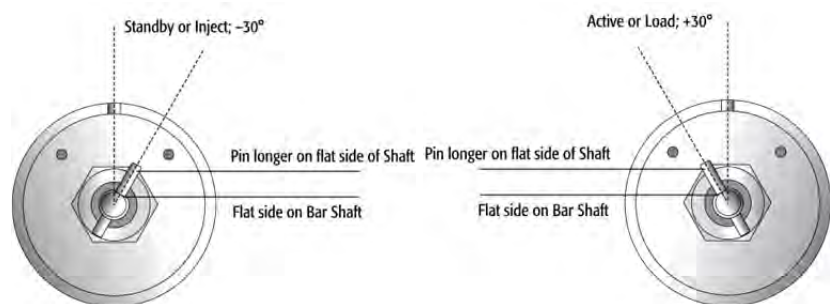
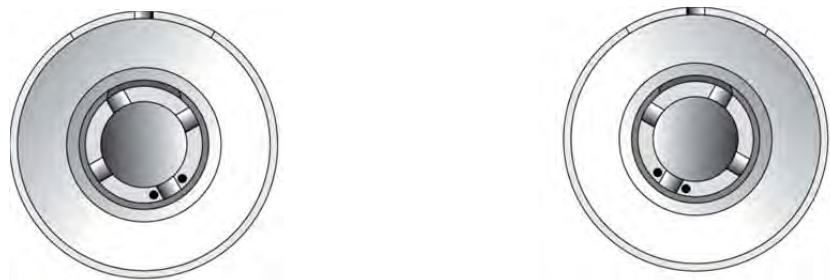

Figure 66. Valve Position 'Standby' and 'Active'
Figure 67. Actuator Position 'Standby and 'Active'
3. Check that the valve guide pin remains at its position; Observe the correct orientation of the guiding pin as shown below in Figure 66 and Figure 67 for the Valve Drive position;